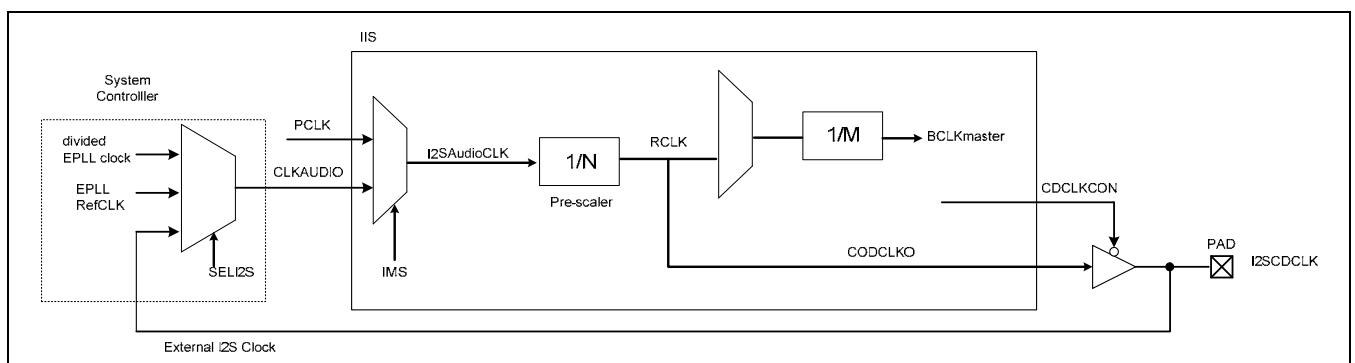

Figure 23-2. IIS Clock Control Block Diagram
Figure 23-2 shows the route of the root clock with internal master(PCLK, divided EPLL clock , EPLLRefClock) or external master(External I2S clock) mode setting in IIS clock control block and system controller. Note that RCLK indicates root clock and this clock can be supplied to external IIS codec chip at internal master mode and slave mode.(when CDCLKCON bit of IISMOD register is 1). At slave mode RCLK doesn't affect to I2SSCLK and I2SLRCLK, but for correct I2S functioning setting RFS, BFS are needed.
2. Now then, you choose clock source. S3C2416 has four clock sources. Those are PCLK, divided EPLL clock EPLLRefCLK and external codec. If you want to know more detail, refer Figure 23-2.